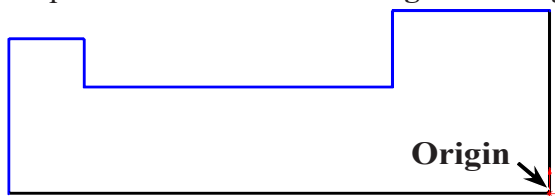

Fig. 2
Step 3. Click **Line**  (L) on the Sketch toolbar.
Step 4. Sketch 8 lines starting from **Origin**  , **Fig. 2**.